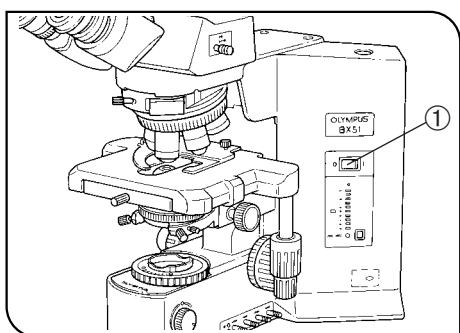

Fig. 1
(Fig. 1)
4. To avoid potential shock hazards and burns when replacing the light bulb, set the main switch ① to “○” (OFF) then disconnect the power cord from the wall outlet in advance. Whenever you replace the bulb during use or right after use, allow the lamp socket, and bulb to cool before touching. (Fig. 1)